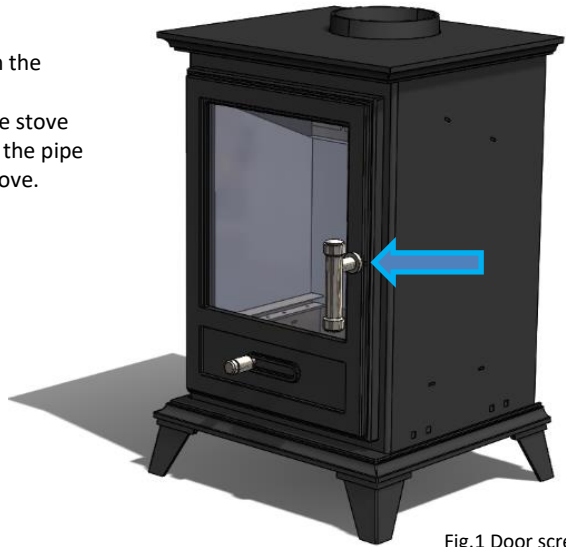
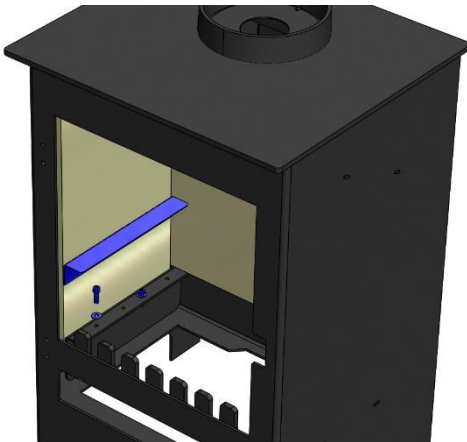
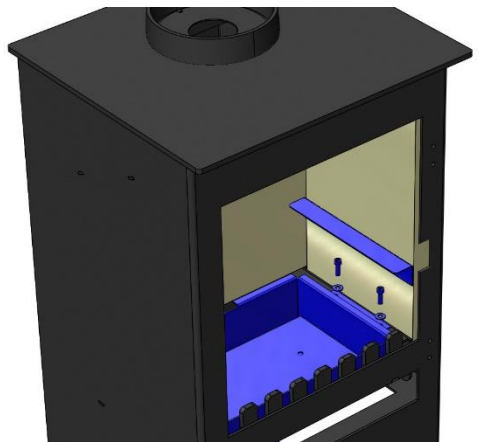

Fig.1 Door screw
Fig.2 Mesh Trims
Fig.3 Burner Tray Fitting
Slacken the screw securing the door shown in Fig.1 and open the door. Remove the 2 burner tray support mesh trims to access 4 x hex head screws/washers (see Fig.2). Remove the screws/washers and position the burner tray into the stove, ensuring that the pilot is located to the rear. Use the 4 screws/washers to secure the burner tray to the burner tray supports. Replace the mesh trims to conceal the hex head screws (see Fig.3).
4. Close the door and secure with the locking screw as shown in Fig. 1.